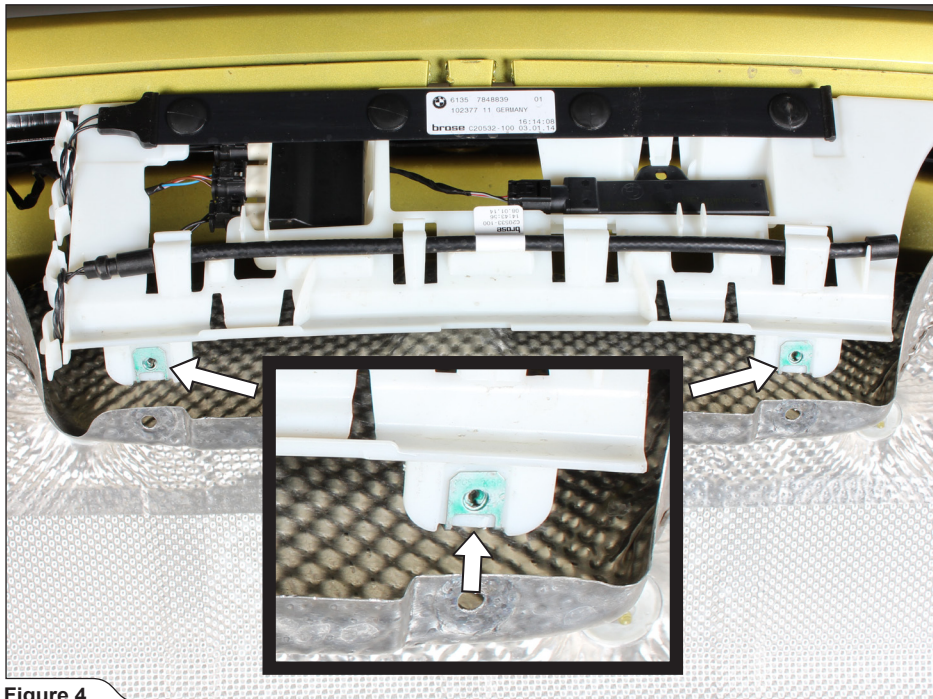

Figure 4
1. Replace the marked stock U-clip nuts with Akrapovič U-clip nuts (Figure 4).